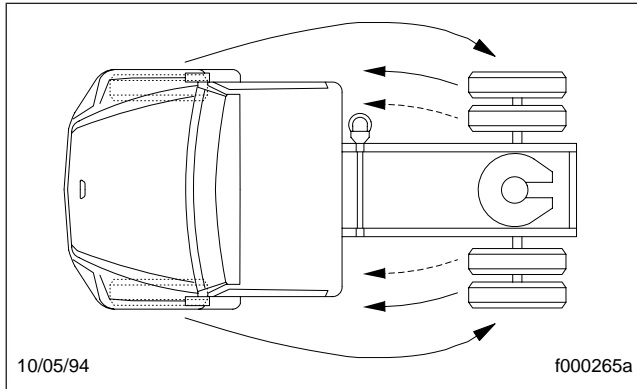
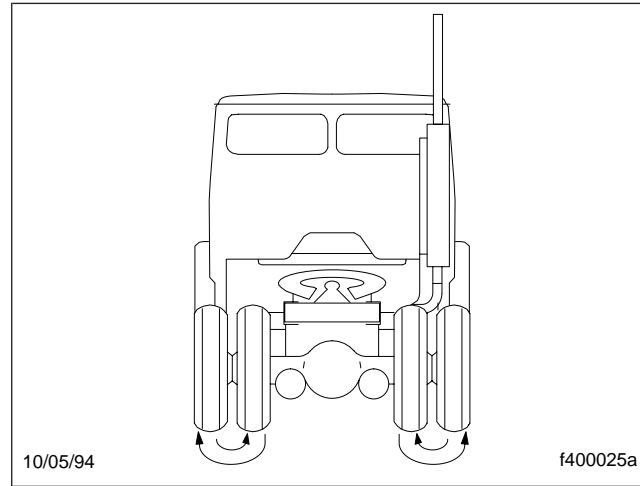

Fig. 9.15, Front Axle to Rear Axle Rotation
Fig. 9.16, Dual Assembly Rotation
- 43.6 If the tires are wearing irregularly, rotate them. If the front steering axle tires become irregularly worn, move them to the drive axle (**Fig. 9.15**). Have the front axle alignment checked to determine the cause of irregular tire wear. In a dual assembly, if one tire wears faster than its mate, reverse the position of the two tires. See **Fig. 9.16**.